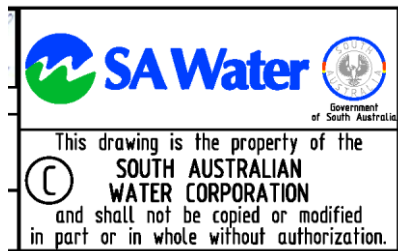

FIG. 9
4.4.3 SA Water Logo Panel (FIG. 9)